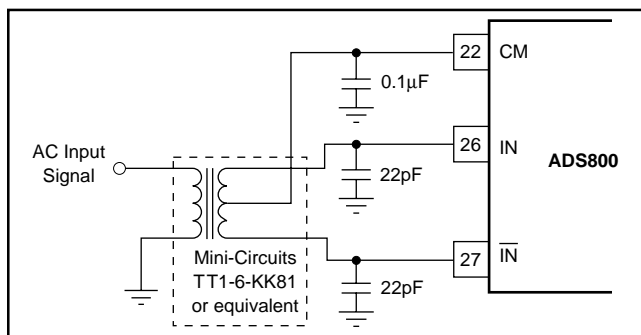

FIGURE 5. AC-Coupled Single-Ended to Differential Drive Circuit Using a Transformer.
The ADS800 has a differential input with a common-mode of +2.25V. For AC-coupled applications, the simplest way to create this differential input is to drive the primary winding of a transformer with a single-ended input. A differential output is created on the secondary if the center tap is tied to the common-mode voltage of +2.25V, as per Figure 5. This transformer-coupled input arrangement provides good high-frequency AC performance. It is important to select a transformer that gives low distortion and does not exhibit core saturation at full-scale voltage levels. Since the transformer does not appreciably load the ladder, there is no need to buffer the Common-Mode (CM) output in this instance. In general, it is advisable to keep the current draw from the CM output pin below 0.5μA to avoid nonlinearity in the internal reference ladder. A FET input operational amplifier such as the OPA130 can provide a buffered reference for driving external circuitry. The analog IN and \bar{IN} inputs should be bypassed with 22pF capacitors to minimize track-and-hold glitches and to improve high input frequency performance.